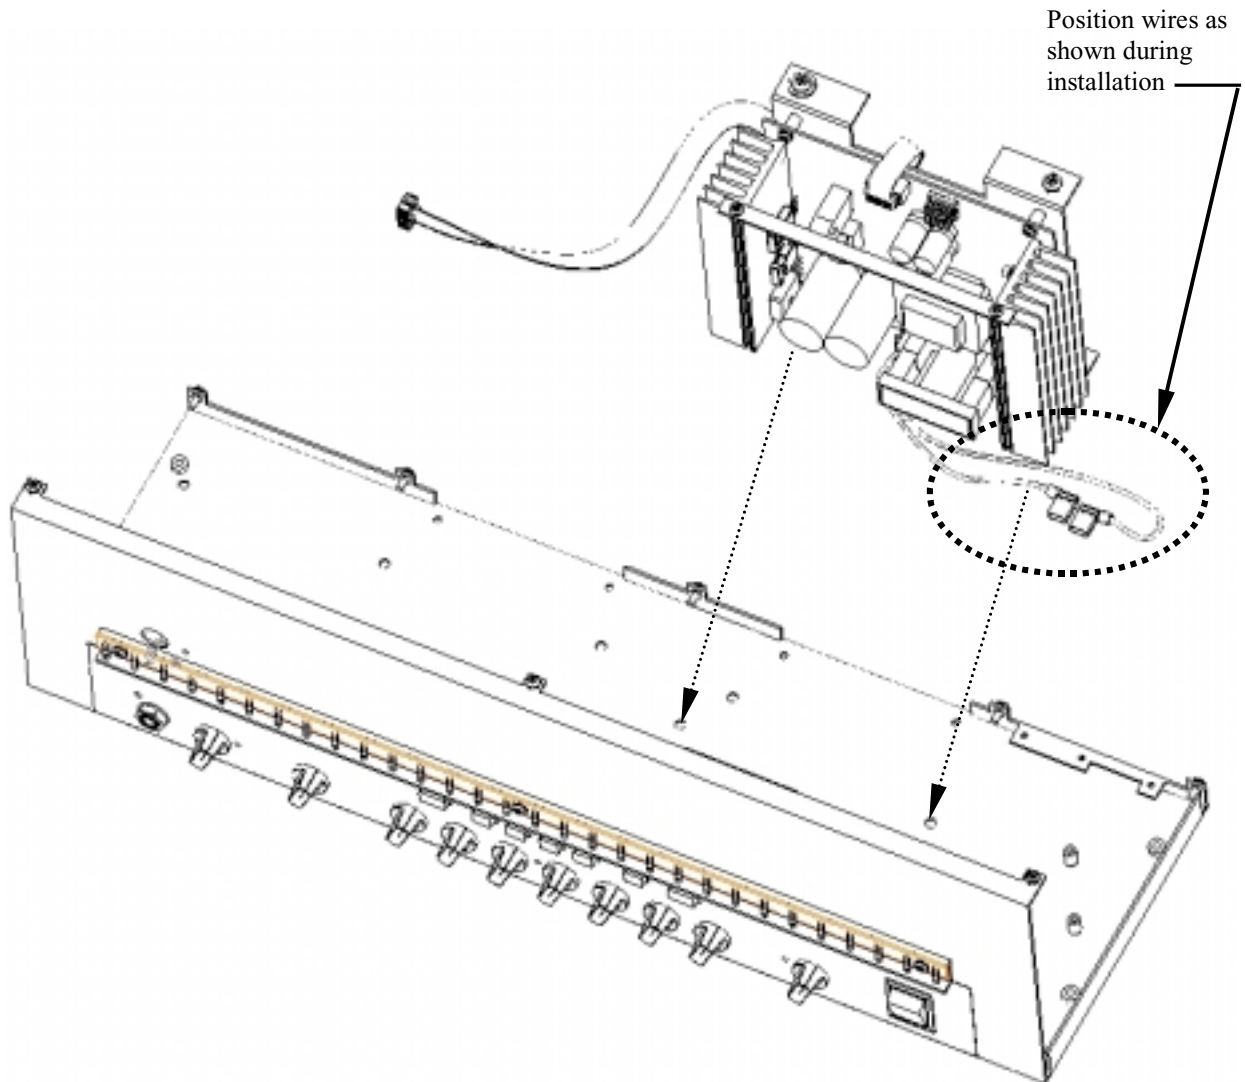

Figure 8
- a. Install Power Supply onto Chassis. Guide Black and White wires to the side. See figure 8.